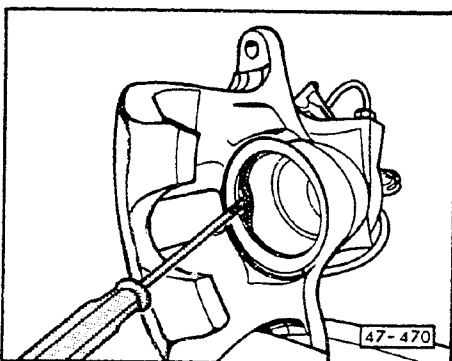

Fig. 2 Piston seal, removing
► Fig. 2 Piston seal, removing
► Fig. 2 Piston seals, removing